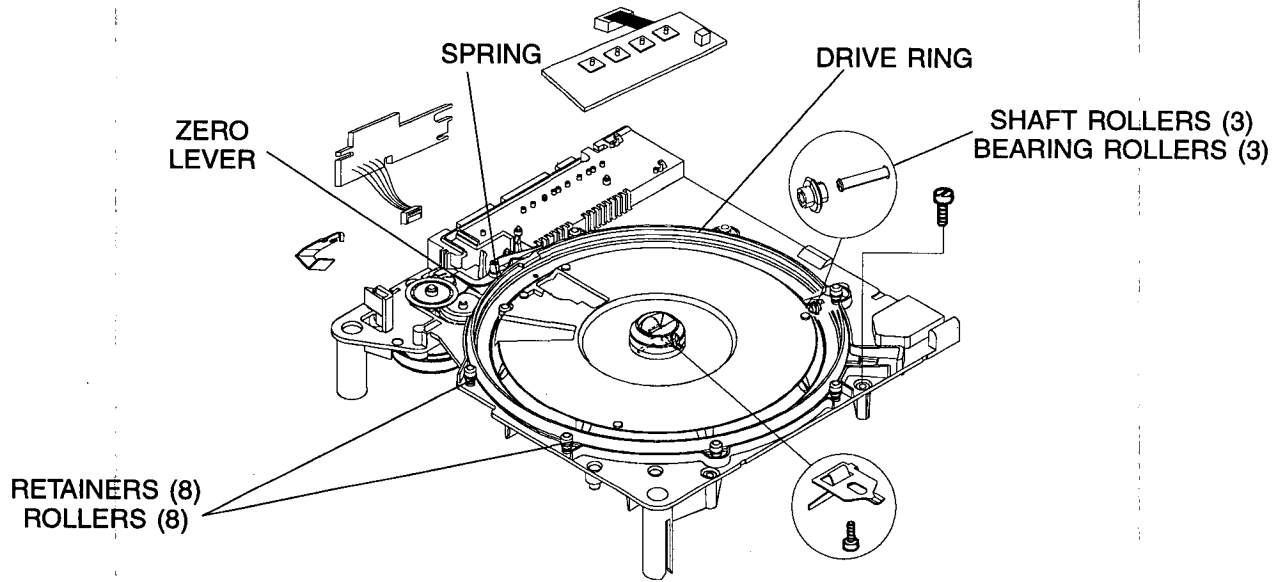

figure 4-5
4. Remove the SPRING and the ZERO LEVER. See figure 4-5.
5. Remove the 8 RETAINERS and 8 ROLLERS. See figure 4-5.
6. Remove the DRIVE RING. See figure 4-5.
7. Remove the 3 SHAFT ROLLERS and the 3 BEARING ROLLERS. See figure 4-5.